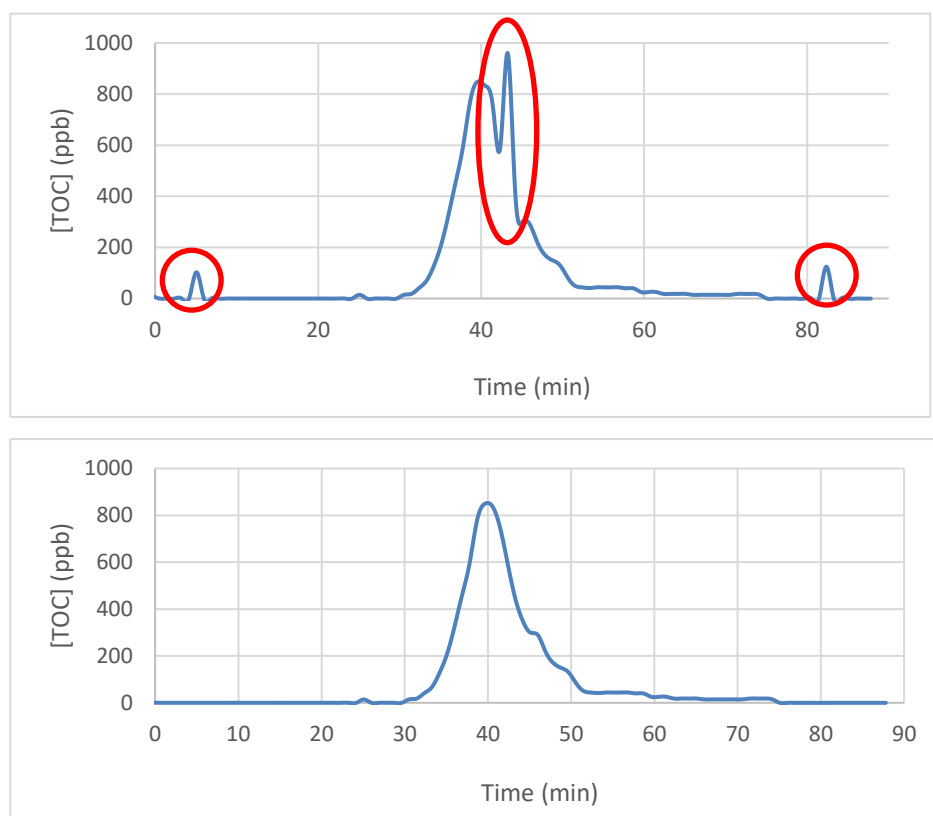

Figure 10. Chromatograms of the same analysis, before (top) and after (bottom) artifact removal.
possible for duplicates to be analyzed, artifact peaks often show up as a very sharp peak (steeper and more abrupt than sample peaks) at unexpected times. An example is shown in the plots below (**Figure 10**). In the top plot, artifacts have been circled in red, which have been removed from the bottom plot. Programs such as MATLAB or R can be used to effectively remove artifacts and interpolate through the gap in data.
- Within the M9, syringes constantly inject the acid and oxidizer reagents into the sample stream (needed for the calculation of TOC by the M9). The periodic refill process of these syringes may result in sharp, periodic TOC peaks. This particular type of artifact is shown in **Figure 10**. Optimization of the acid/oxidizer selected should minimize the intensity of this type of artifact.